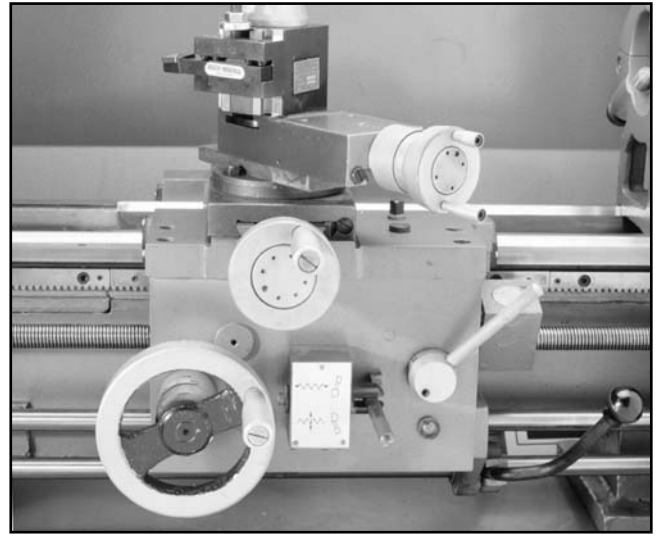

Figure 24. Carriage control lever in neutral.
1. Make sure the machine is properly grounded, the Power Switch is in the “OFF” position and the spindle control lever is in the neutral position. **See Figure 24.**